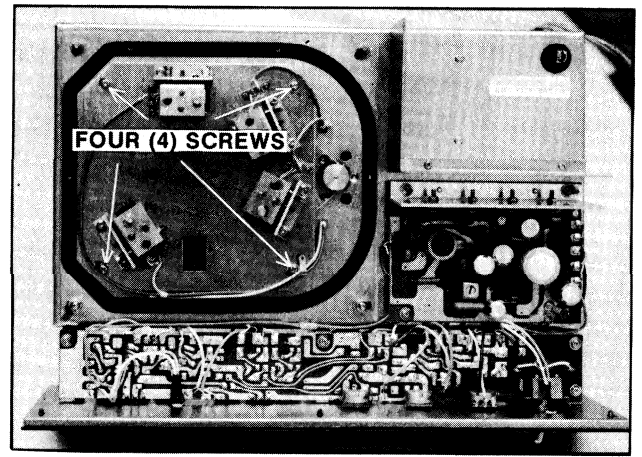

Figure 3
- a) Remove four (4) screws (Fig. 3) from plate assembly.